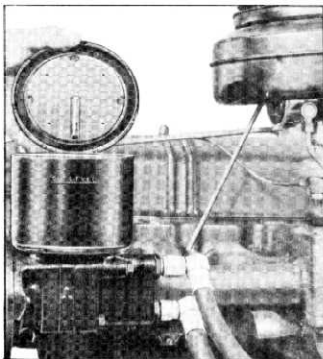

Fig. 23 - Oil Level
2. Level of fluid should be 1" below top edge, at oil level mark as indicated on outside of tank (fig. 23).